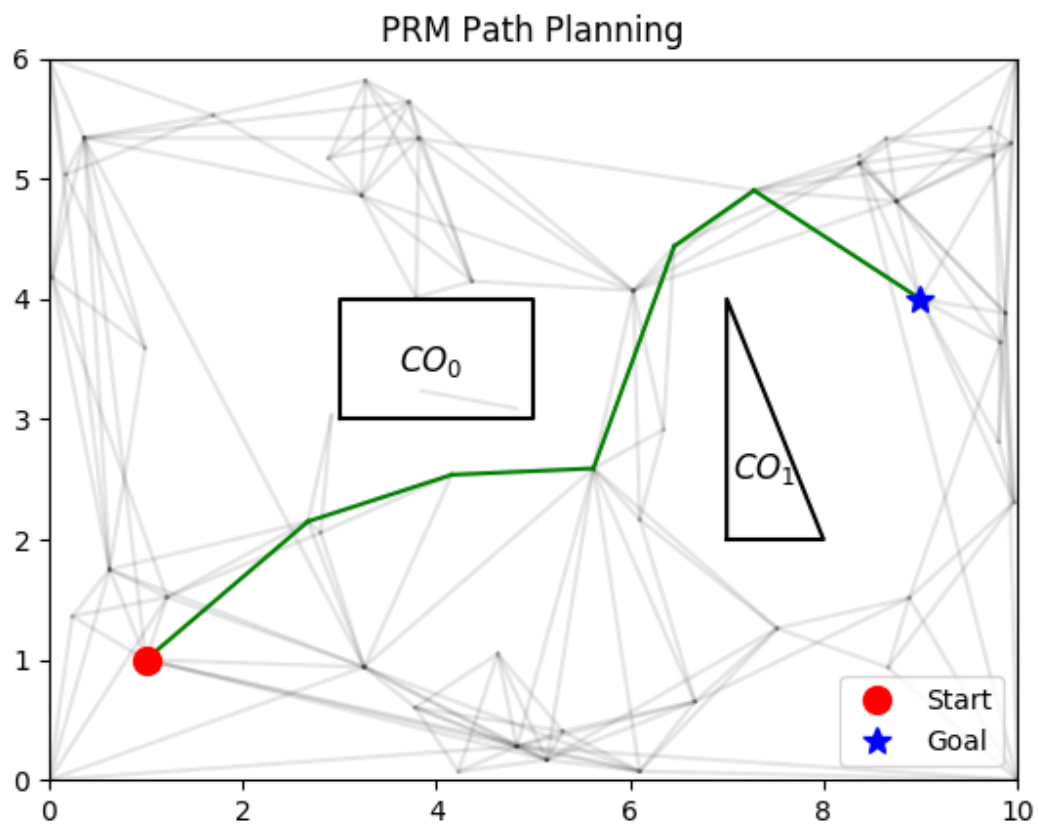

Fig. 3 PRM
a) For PRM (Figure 3) I sampled across a uniform distribution inside the workspace of the robot. To connect the nodes, I implemented a k-Nearest Neighbors algorithm that connects the node to the kNNs based on euclidean distance. I used Dijkstra's for graph search. The total distance is 9.79.